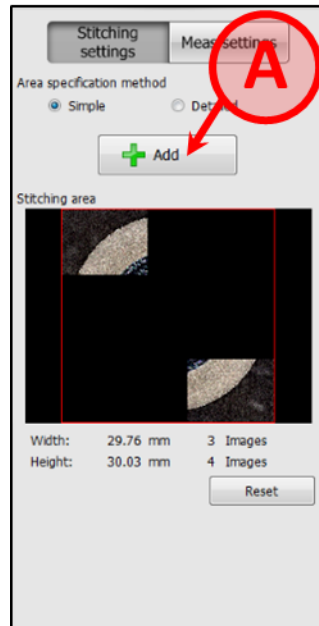

Figure 6 - Establishing the Stitching Area
- 2.5.1. Press the **(A) Add** button to capture the image within the view of the *Stitching* area (Figure 6).
- 2.5.3. Capturing images of the upper left-hand and bottom right-hand corners of the lifter (as shown in Figure 6) are sufficient to establish the stitching area.